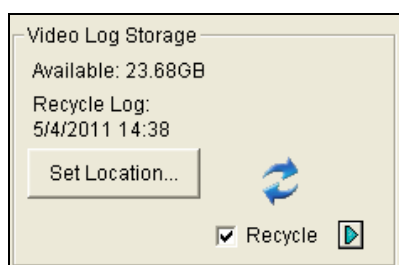

Figure 1-6
1. Click the **Set Location** button (Figure 1-6) and select **Database Folder**.